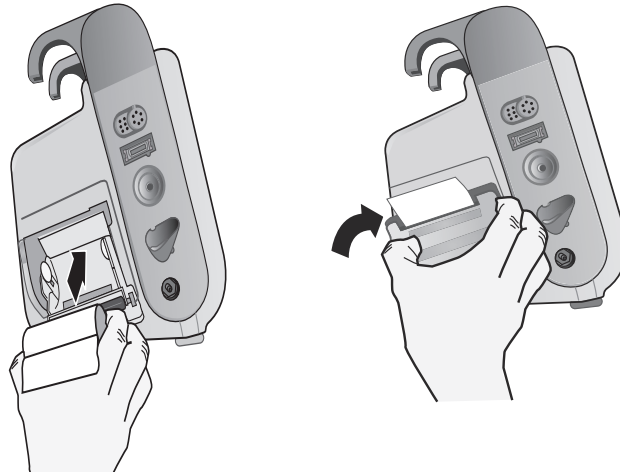

Figure 25-2. Inserting the Paper and Closing Printer Door
4. Place the paper back into the unit and close the cover (see Fig. 25-2).